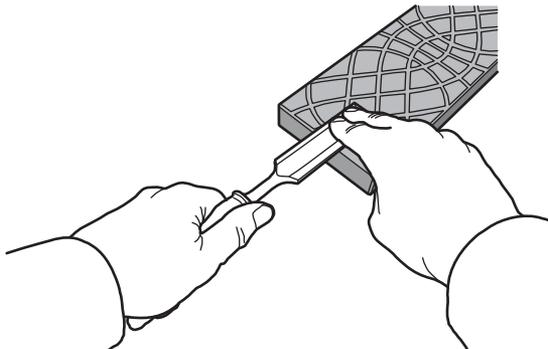

Figure 6: Lapping a chisel.
- Apply sufficient force. When lapping the sole of a plane or the entire back of a blade (using a suitable jig), the operator's hand and the weight of the object impart enough force to result in useful strokes. For larger objects for which only a portion of the surface is being lapped, it will be necessary to impart some downward force to keep the object in contact with the lap. See **Figure 6**.